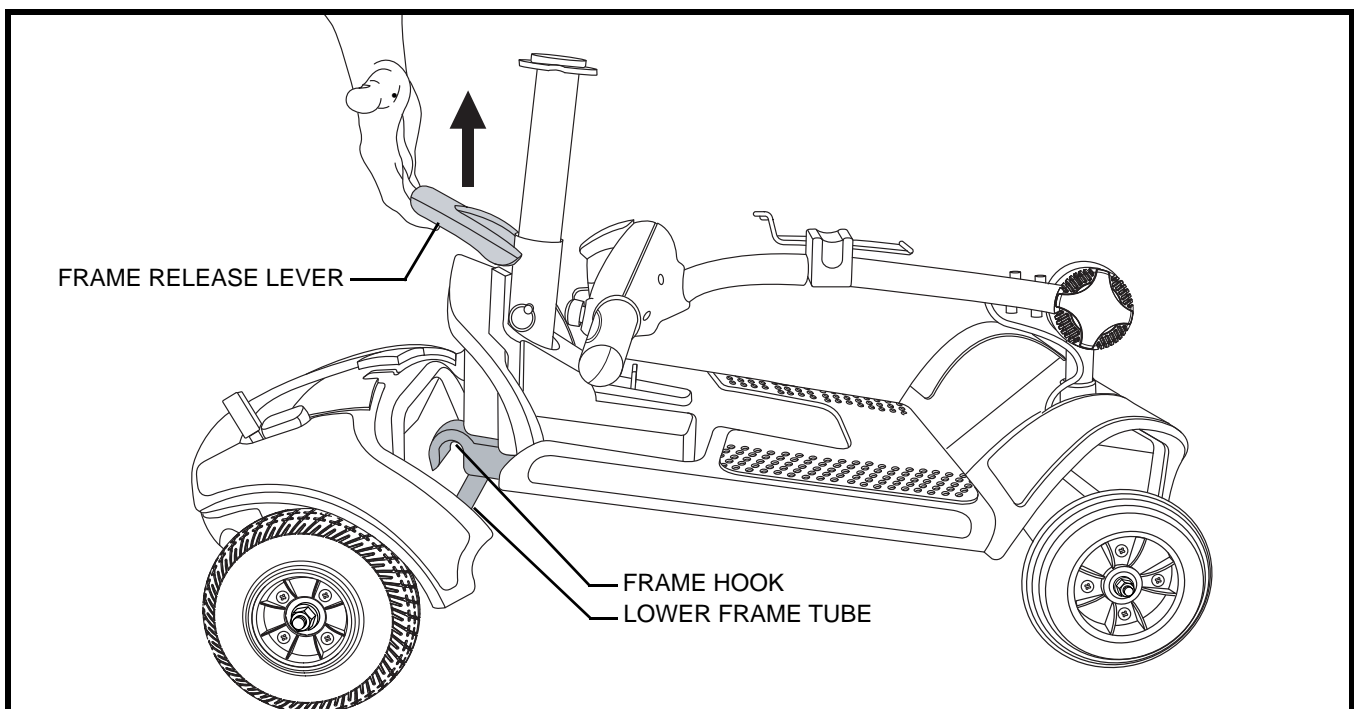

Figure 19. Frame Release Lever
3. Slowly separate the two sections of the Travel Scooter. **See figure 19.**
**NOTE:** Before attempting assembly, tilt the rear half of the Travel Scooter slightly back on the anti-tip wheels as show in figure 19.
1. Use the frame release lever to lift the front section as you align the frame hooks of the front section with the lower frame tube of the rear section. **See figure 19.**